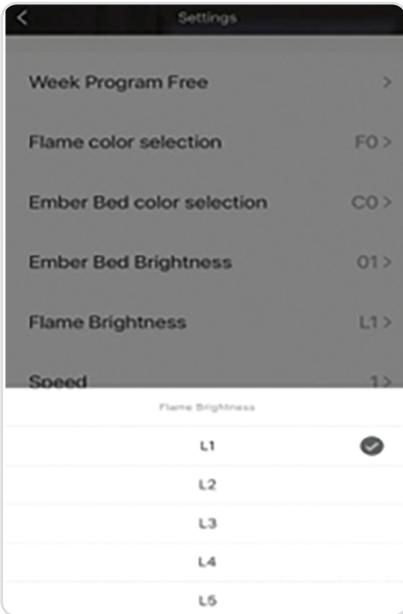

Fig. 14
9. Turn on the flame brightness and select the flame brightness L1-L5 as shown in Fig. 14.